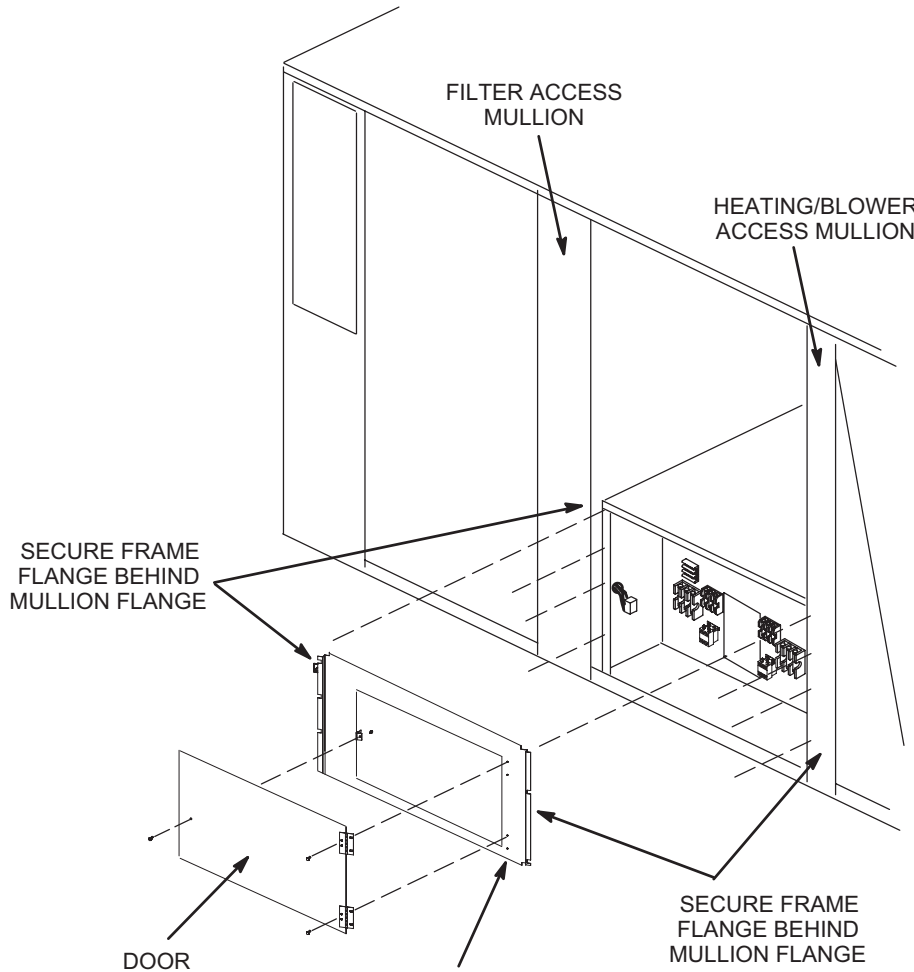

FIGURE 7
- 1 - Secure door frame on inside of filter access and heating/blower access mullions. Use existing screws. See FIGURE 7.